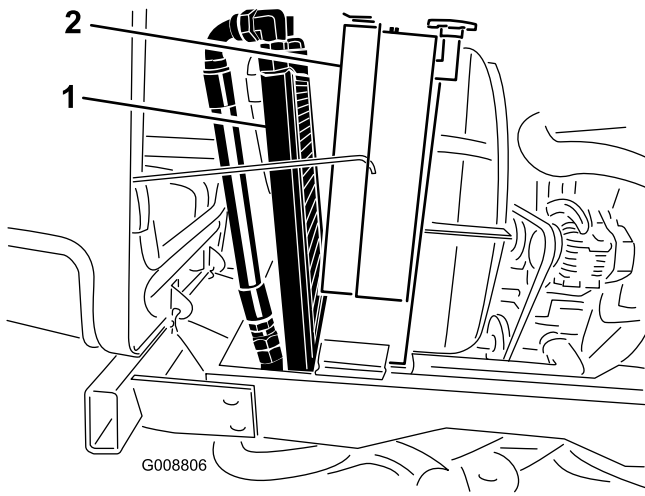

Figure 63
3. Pivot the oil cooler rearward. Clean both sides of the oil cooler and radiator area (Figure 63) thoroughly with compressed air. Start from the front and blow the debris out towards the back. Then clean from the back side and blow towards the front. Repeat procedure several times until all chaff and debris is removed